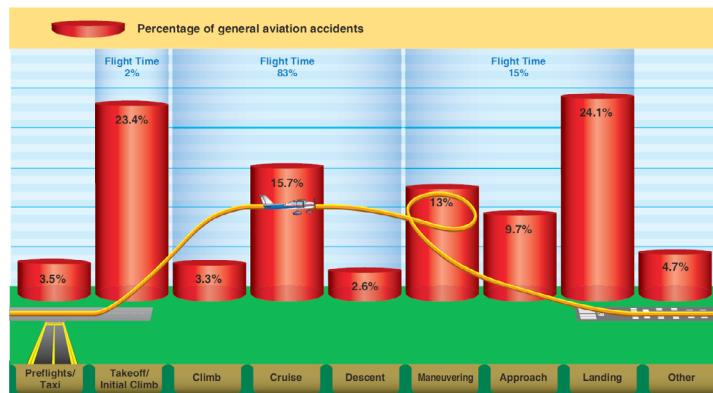

Figure 10.1, Percentage of aviation accidents related to phases of flight
Aeronautical decision-making (ADM) is decision-making in a unique environment – aviation. It is a systematic approach to the mental process used by pilots to consistently determine the best course of action in response to a given set of circumstances. It is what a pilot intends to do based on the latest information he or she has. The importance of learning and understanding effective ADM skills cannot be overemphasized. While progress is continually being made in the advancement of pilot training methods, aircraft equipment and systems, and services for pilots, accidents still occur. Despite all the changes in technology to improve flight safety, one factor remains the same: the human factor which leads to errors. It is estimated that approximately 80 percent of all aviation accidents are related to human factors and the vast majority of these accidents occur during landing (24.1 percent) and takeoff (23.4 percent). (Figure 10.1) ADM is a systematic approach to risk assessment and stress management. To understand ADM is to also understand how personal attitudes can influence decision-making and how those attitudes can be modified to enhance safety in the flight deck. It is important to understand the factors that cause humans to make decisions and how the decision-making process not only works, but can be improved. This chapter focuses on helping the pilot improve his or her ADM skills with the goal of mitigating the risk factors associated with flight. Advisory Circular (AC) 60-22, Aeronautical Decision-Making, provides background references, definitions, and other pertinent information about ADM training in the general aviation (GA) environment.